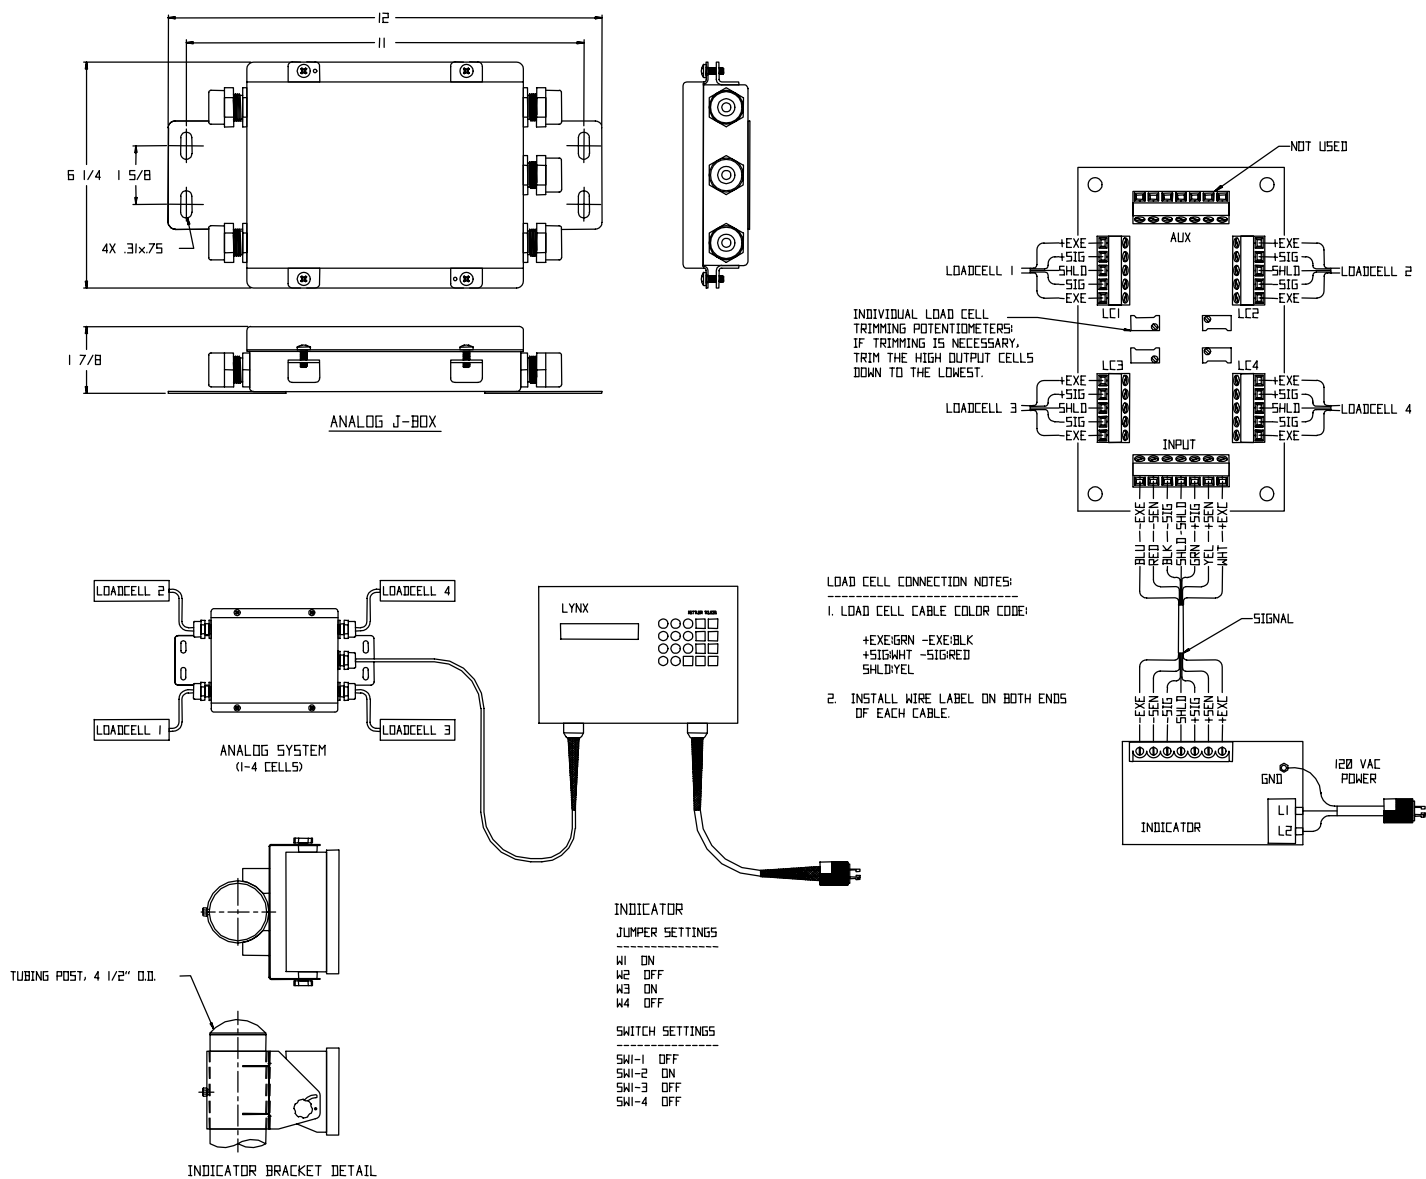

Figure 2-5: Analog System Wiring Diagram
Once the scale platform has been installed, mount the Lynx terminal and wire it to the scale's junction box. Refer to Figure 2-5 for wiring details and color coding.
3. Connect the caster deck scale to the terminal block labeled load cell. See Figure 2-5 for connections and color codes.